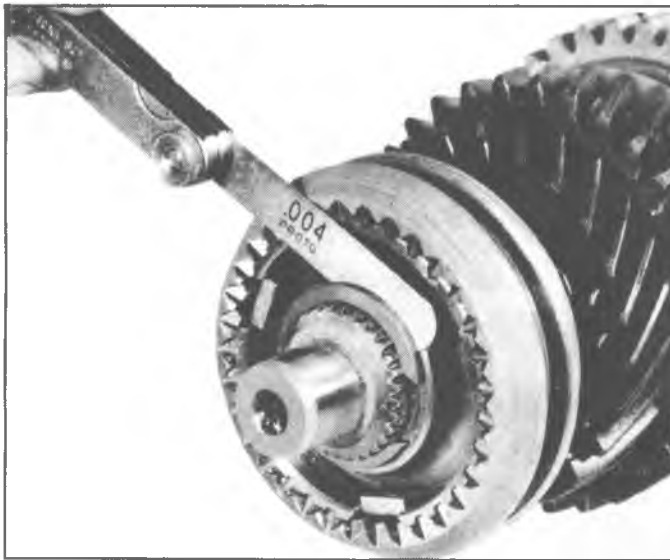

Fig. 20R--Measuring Output Shaft End Play
8. Install retaining snap ring on output shaft and measure end play between snap ring and Second-Third synchronizer hub with feeler gauge (fig. 20R). End play
22. Turn shift rail until detent notches in rail face upward. Move rail inward until setscrew hole in fork and setscrew bore in shift rail are aligned. Secure fork to rail with setscrew and place First Reverse sleeve and gear into Neutral (centered) position (fig. 20R).